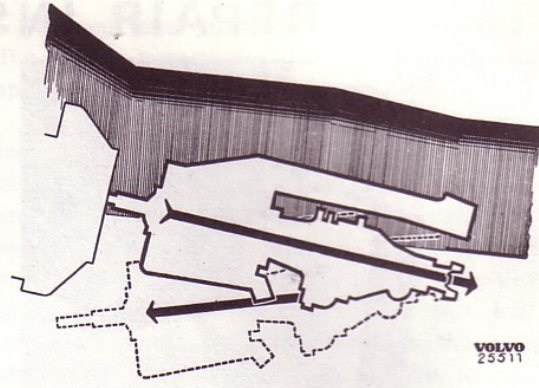
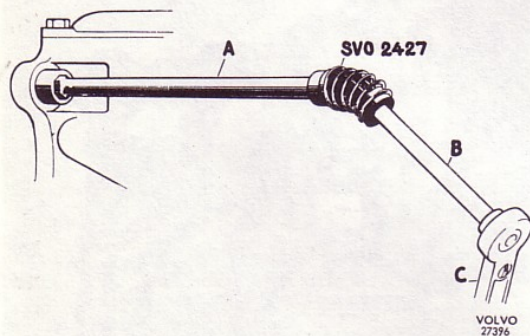

Fig. 18. Removing gearbox
Fig. 17. Removing gearbox bolts
5. Slacken the bolts which hold the gearbox to the clutch casing. Use spanner SVO 2487 (3/8" hexagon) or SVO 2488 (8 mm hexagon) together with ball joint SVO 2427, the extension and the ratchet handle for the upper bolts, see Fig. 17. Pull the gearbox backwards and lift it down as illustrated in Fig. 18.